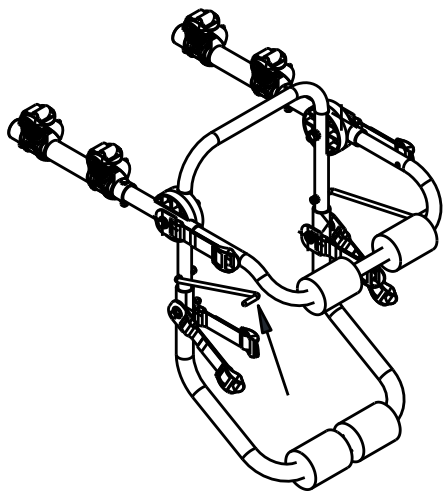
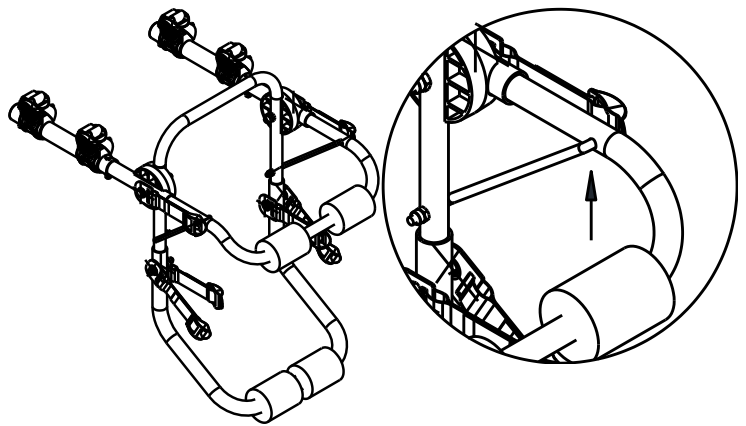

FIG. 5
FIG. 6
- Thread the M8 locknut onto the screw, but keep it loose. Repeat on other side. (Fig.5)
- A. Carefully insert the support rod into support rod hole by pulling the rod toward center of carrier and rotating to hole (Fig. 5 and Fig. 6). Repeat on other side.